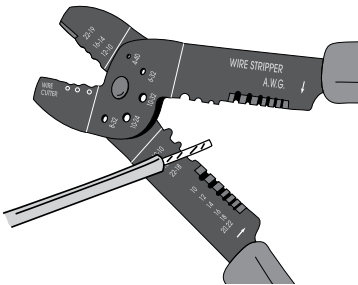

figure 5
1. Strip wires over 1 cm (½ inch) (**figure 5**).